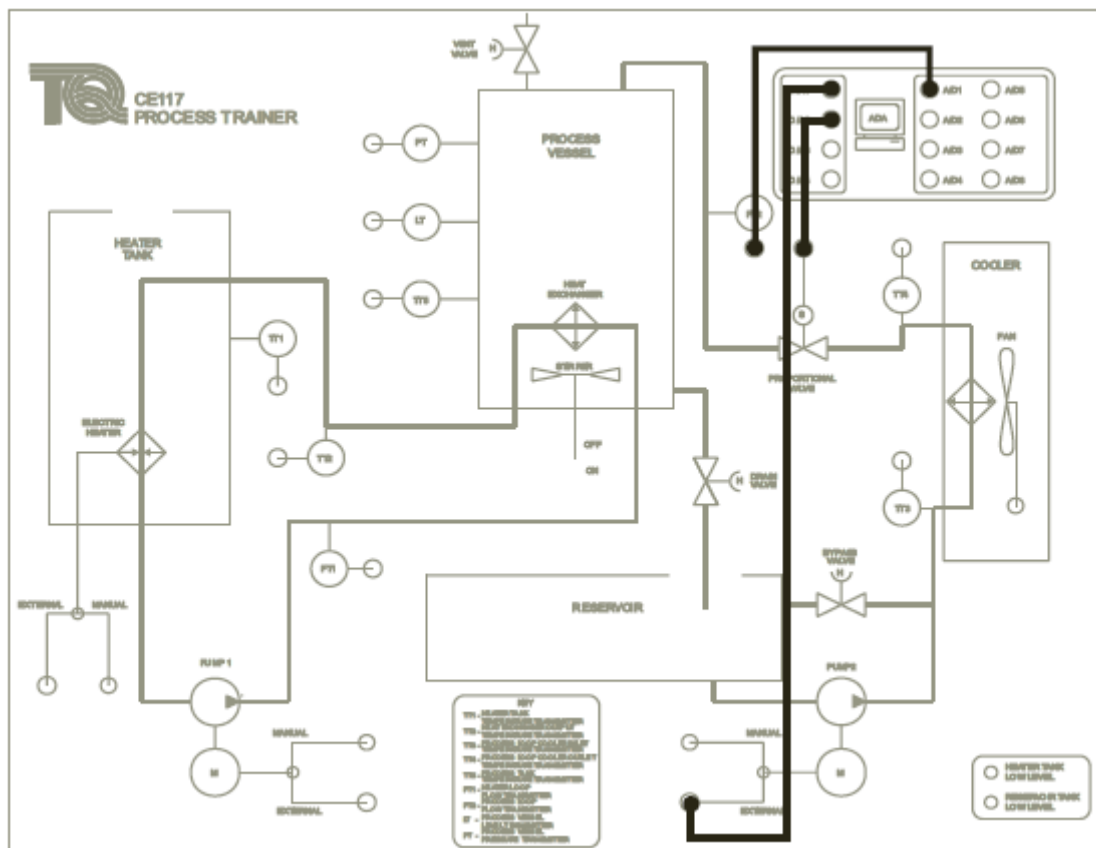

Figure 4 Connections for Experiment 1
- 3) Connect the CE117 Mimic Panel as shown in Figure 4. Set Pump 2 switch to 'External'. Analogue signals will pass from the ADA section to Pump 2, the proportional valve (S) and from flow transmitter (FT2).